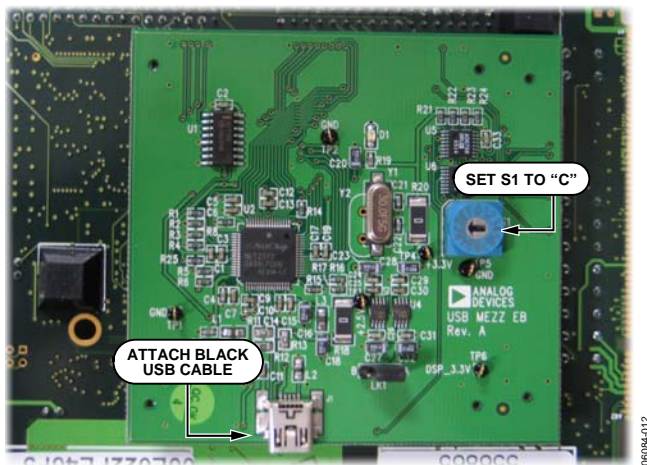

Figure 12. USB Mezzanine Board (Attached Underneath Blackfin EZ-KIT Lit)
3. Using the black mini USB cable included in the AD7764/AD7765 evaluation kit, connect the Blackfin board (via the USB mezzanine board underneath the Blackfin board shown in Figure 12) to one of the PC's USB sockets.
4. Also ensure that the hexadecimal switch (S1) is set to C and that Link L1 is set to A on the USB mezzanine board (see Figure 12).